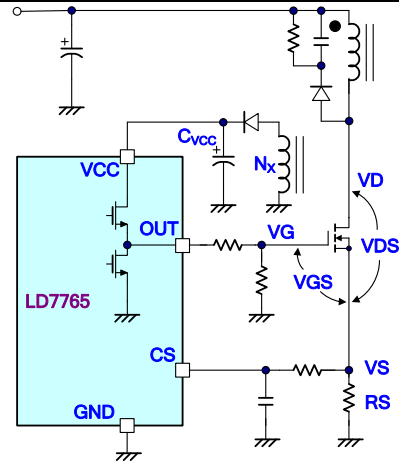

Fig 20.
Fig 20 shows a totem pole architecture for the circuit of OUT. The output high level of OUT is at around V_{CC}-1.5V. The maximum voltage for V_S is equal to V_{CS_OFF}. So we obtain the minimum V_{GS} high level (V_{GS_H(MIN)}) as below.
1. Refer to Fig 20, increase N_x to pull VCC level high.